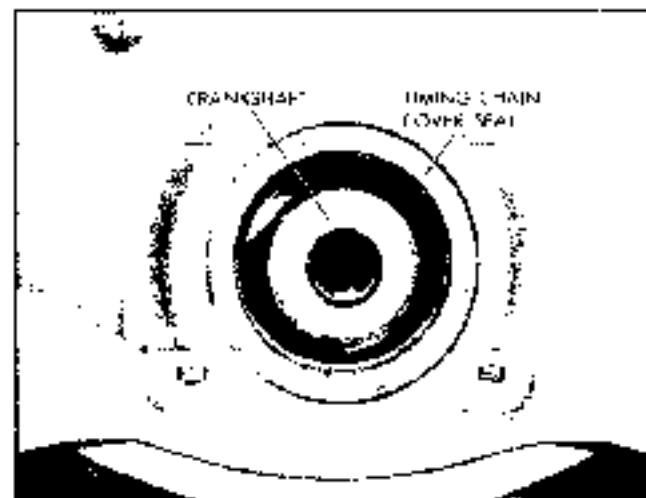

Fig. 6-94 Timing Chain Cover Seal
4. Remove timing chain cover seal by prying out of bore with a pry bar (Fig. 6-94).